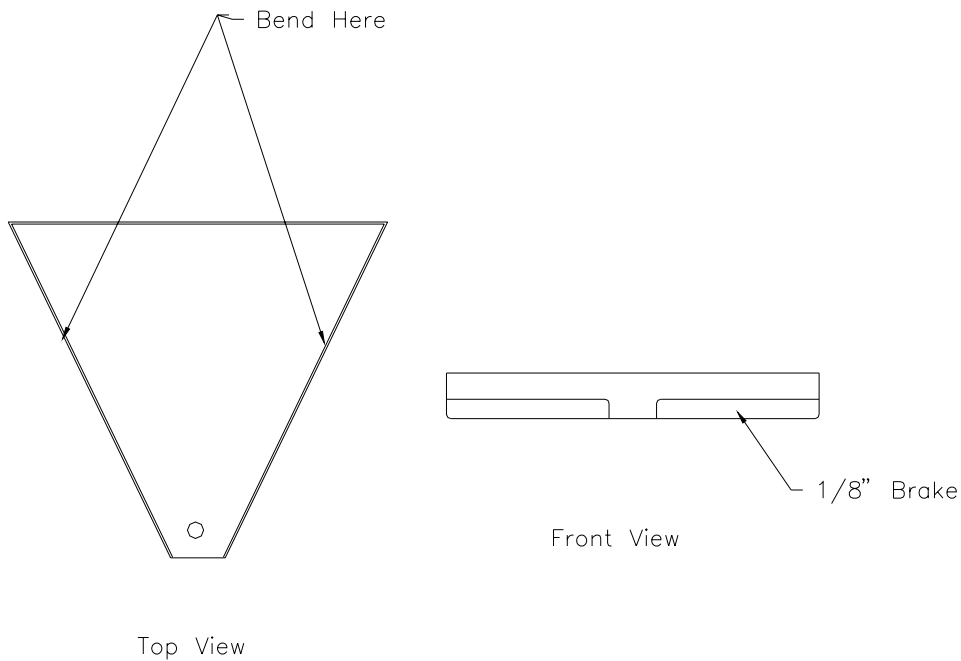

Figure 20.4.9
12) Apply a break along two edges of the Bell Crank Brace. Figure 20.4.9.